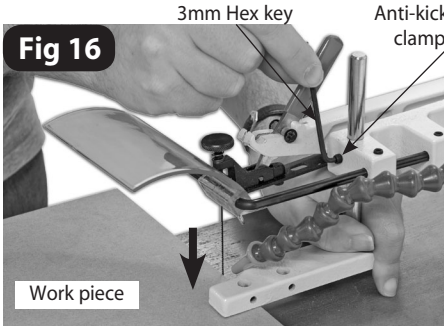

Fig 16
Place your work on top of the work table and lower the anti-kick back guide by loosening the grub screw on the cast iron block, see figs 16 & 17, so it is just above work piece. Re-tighten the grub screw and lower the blade guard (D).